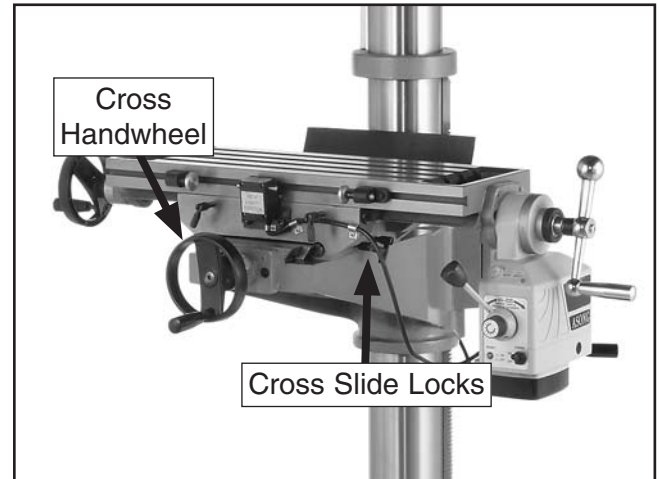

Figure 20. Cross table movement controls.
1. Loosen the two cross slide locks shown in **Figure 20**.